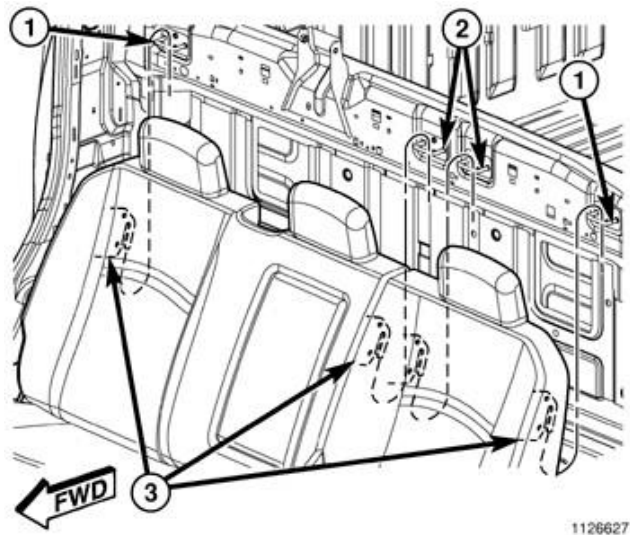

Figure 49 – Center Shoulder Belt
- Lift the rear seat assemblies up and separate the seat hooks (3) from the brackets (1 and 2) (Figure 49).
63. Position the rear seat assembly into the vehicle. lift the seat hooks (3) onto the brackets (1 and 2) (Figure 49).